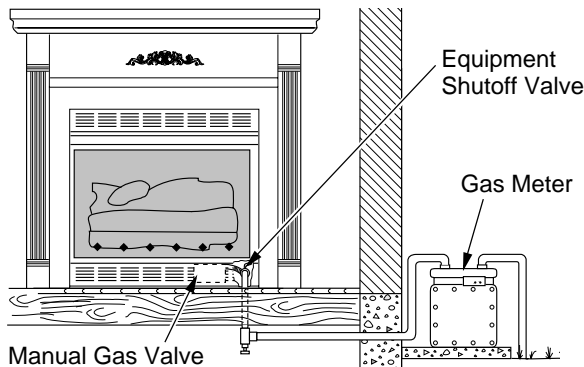

Figure 28 - Checking Gas Joints for Natural Gas Fireplace
4. Check all joints from equipment shutoff valve to gas valve (see Figure 28 or 29). Apply noncorrosive leak detection fluid to all joints. Bubbles forming show a leak.